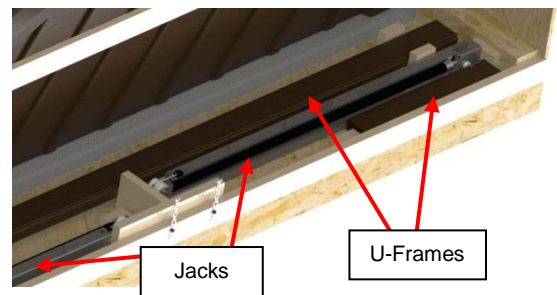

Figure 33
- 14) Remove the two long U-frame pieces, the two short U-frame pieces and both jacks located at the bottom of the crate. Lay these parts down in a safe place. (Figure 33)